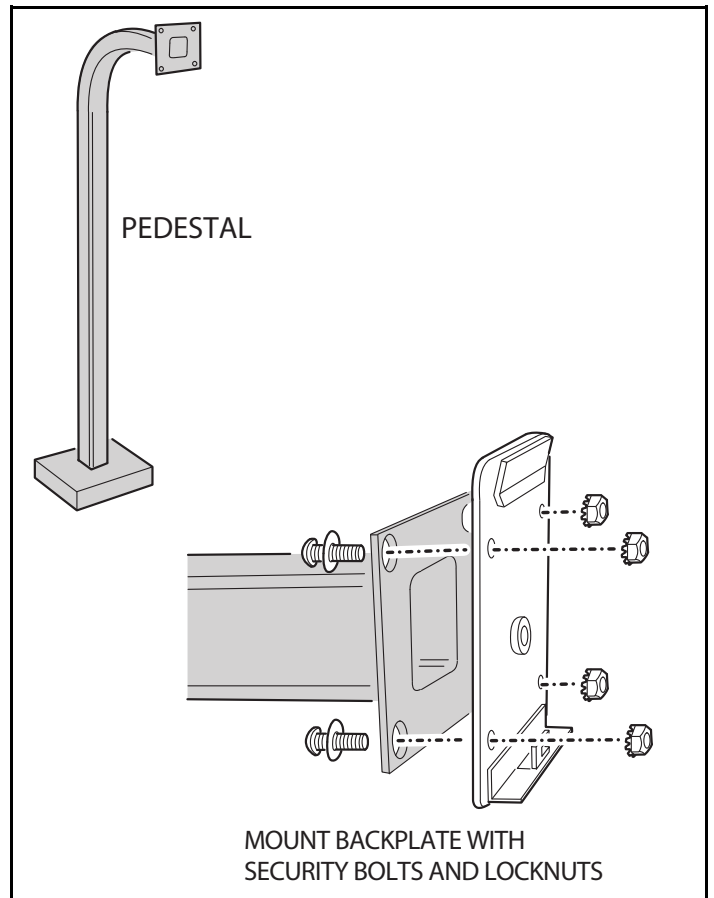

Figure 3. Pedestal Mounting Keypad Backplate
- Use four security bolts and locking nuts to secure the keypad's backplate to the pedestal (see Figure 3).